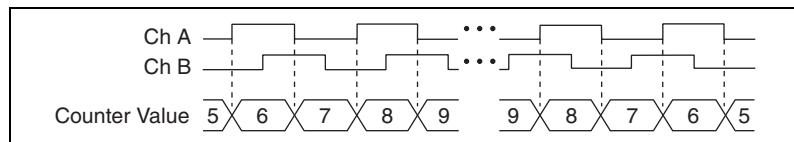

Figure 8-15. X2 Encoding
- **X2 Encoding**—The same behavior for X1 encoding holds for X2 encoding except the counter increments or decrements on each edge of channel A, depending on which channel leads the other. Each cycle results in two increments or decrements, as shown in Figure 8-15.